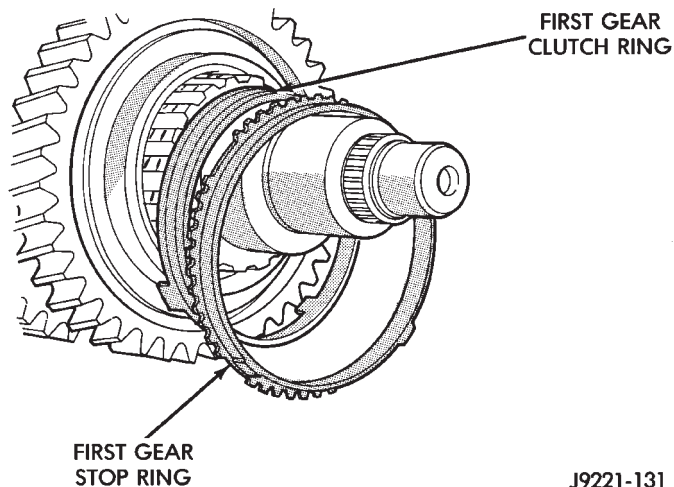

Fig. 70 First Gear Stop And Clutch Ring Removal
(14) Remove first gear synchro stop ring and clutch ring (Fig. 70).